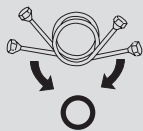

Figure 14
- When extending the rolled pipe, straighten the pipe by unwinding as shown in Figure 14.